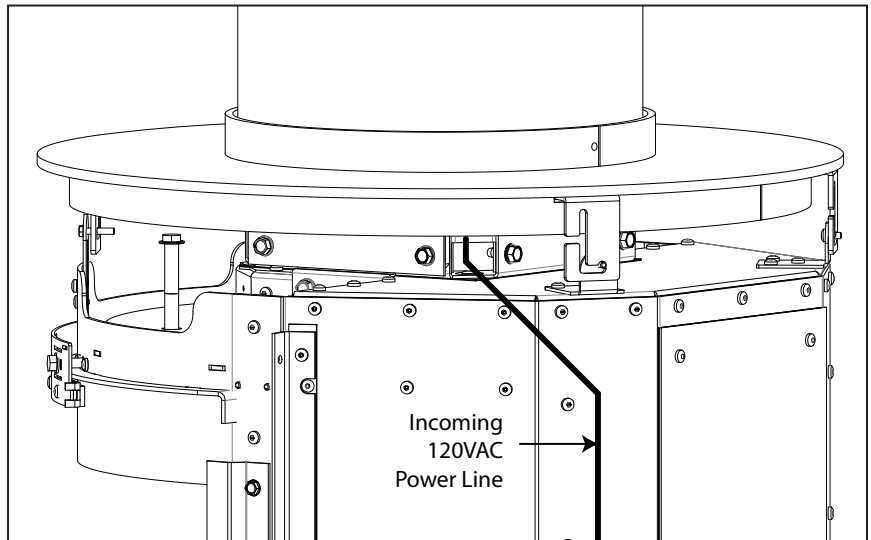

Figure 17: Routing Incoming Power
1. Lift the S50 top plate to access the bottom area of the suspension structure. The Duravent slip section can also be lifted to provide better access. Find the high-temp wires and gas line and thread them through the brace cutout shown in Figure 17.